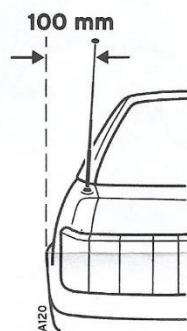

Fig.4
- Drive out the telescope and adjust the antenna to the desired direction and inclination (fig. 4). For driving out the red and green cable must be connected to plus and the black cable to minus of the 12 V battery.